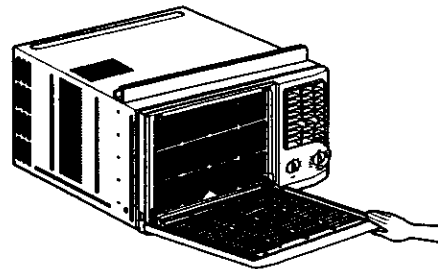

Figure 115
- Close filter door. (See Figure 115)